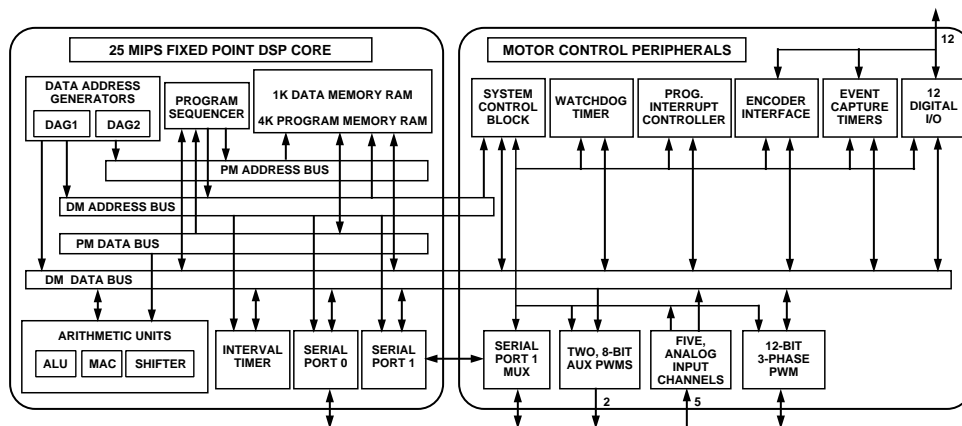

Figure 2. The ADMC300 Single-Chip DSP-based Servo Motor Controller.
**ADMC300 Single Chip DSP-Based Servo Motor Controller** (Figure 2): High-performance servo drives, for robotics and machine tools, require high resolution ADCs and a position sensor interface to meet the demanding performance requirements. The ADMC300 addresses these needs in a single-chip DSP-based solution for these applications. The ADMC300's additional functionality for more-demanding applications includes a DSP core enhanced for 25-MIPS performance. In addition, the program memory RAM has been doubled to 4K words. The need for multichannel, high-resolution ADCs is met by including five independent sigma-delta ADCs that provide 12 bits of resolution. Analog signal expansion is made possible by the provision of three external multiplexer control lines. In addition, the ADMC300 facilitates position sensing via an encoder interface that allows easy connection to an incremental encoder.